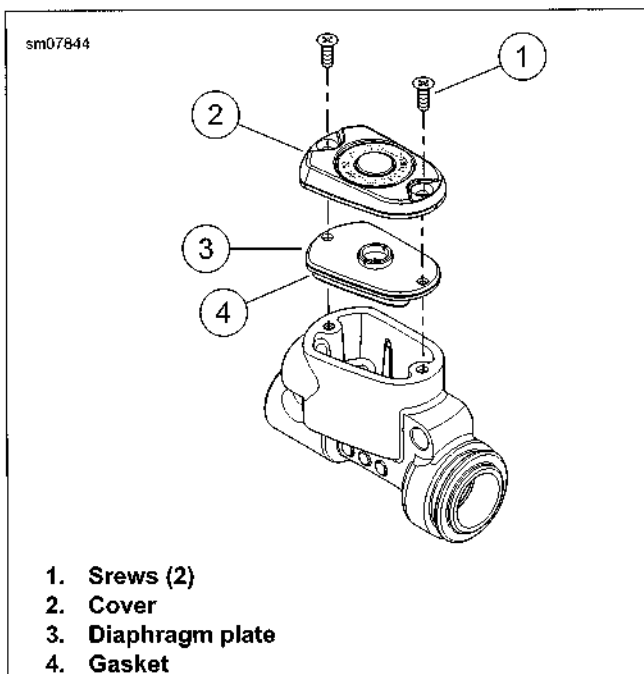

Figure 2-66. Cover
1. See Figure 2-66. Clean cover.
2. Remove cover screws (1).
3. Remove cover (2), diaphragm plate (3) and gasket (4).